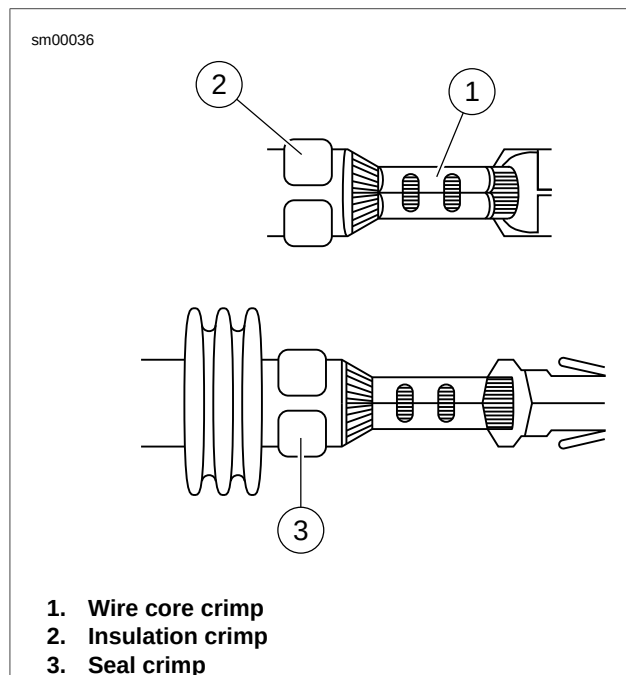

Figure A-42. Metri-Pack Connector: Inspect Core and Insulation/Seal Crimps
1. See Figure A-42. Identify the correct die for the insulation/seal crimp (2).
1. See Figure A-42. Inspect the wire core crimp (1). The tails should be folded in on the wire core without any distortion or excess wire strands.
2. Inspect the insulation (2) or seal (3) crimp. The tails of the terminal should be wrapped around the insulation without distortion.